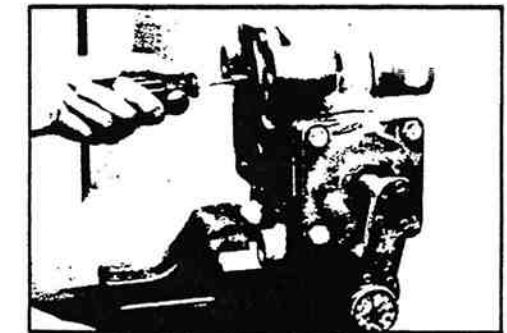

Figure 11-102. Shaft Adjusting Screw.
1. Screw the worm shaft preload adjusting screw (27) finger tight until it contacts the worm shaft (5a).
2. Adjust the sector shaft adjusting screw (40) while rotating the input shaft 90 degrees each direction until the input shaft torque reaches 25-30 in. lbs. (2.825-3.39 Nm) (figure 11-102).